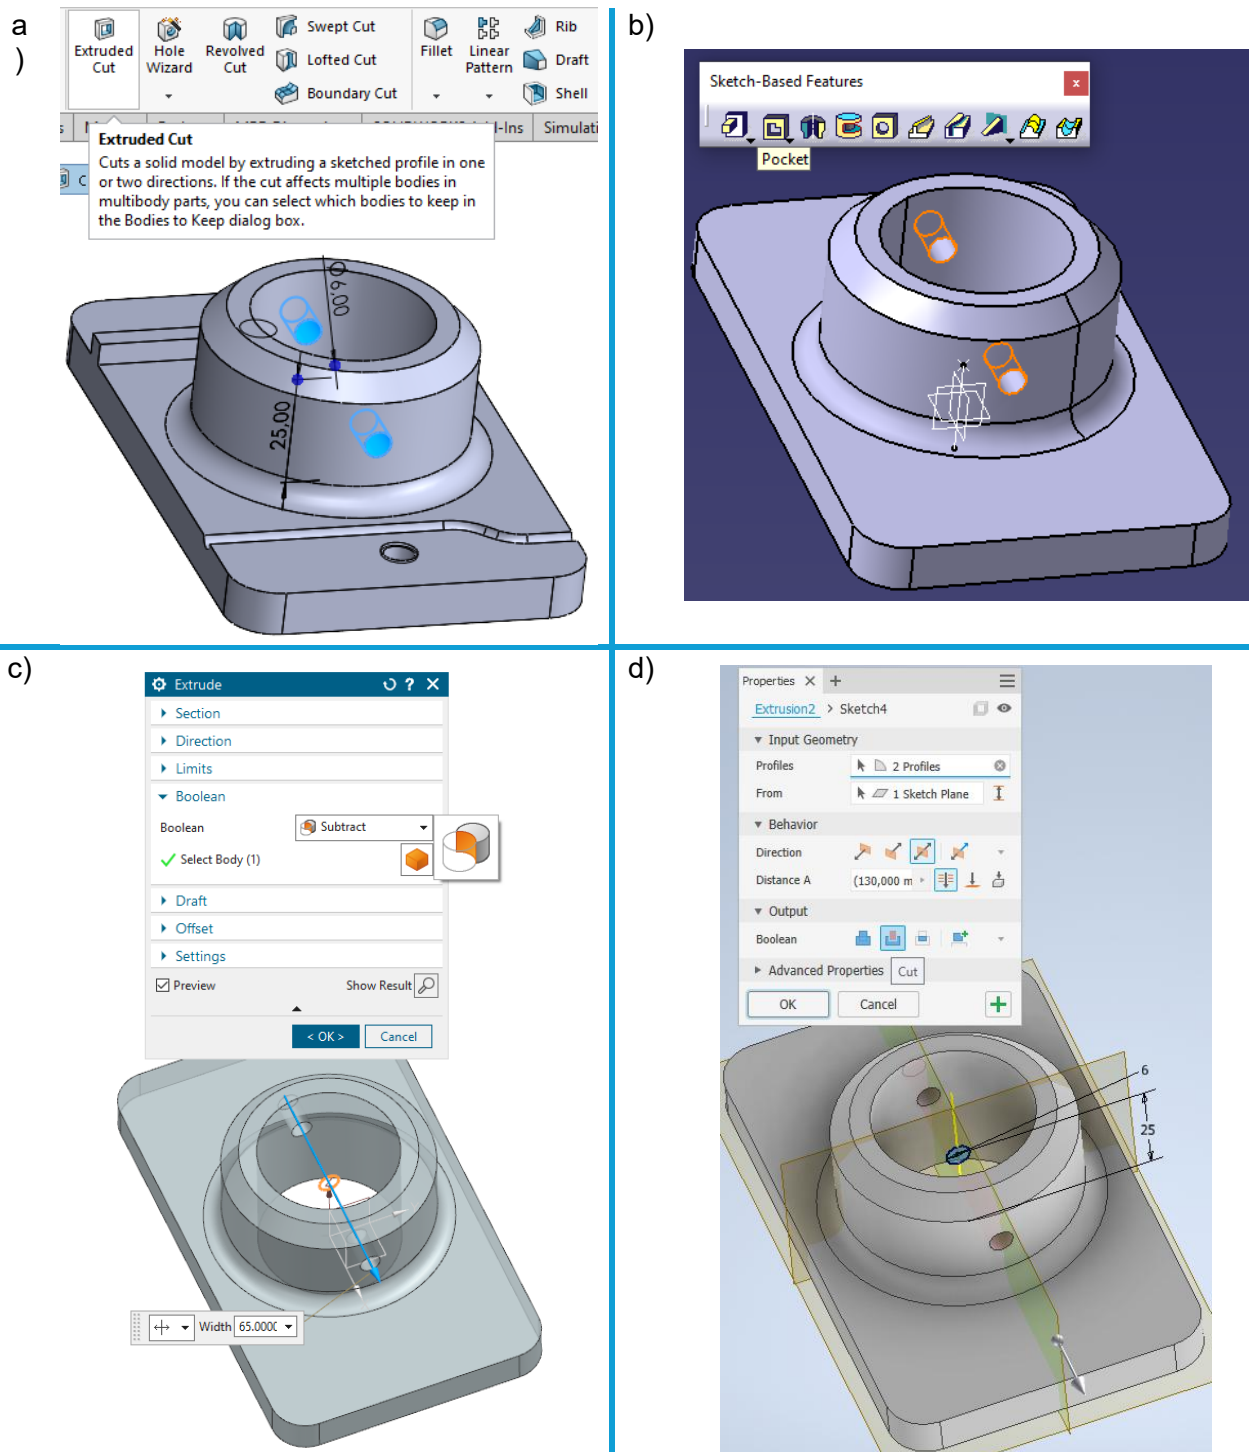

Fig. 10. Extrude cut feature of the part in: a) SolidWorks, b) Catia, c) Siemens NX, d) Inventor
- In Catia this function name is called Pocket, but w Siemens NX and Inventor in the Extrude function select the correct option with Boolean operation - subtract or cut (Fig. 10).